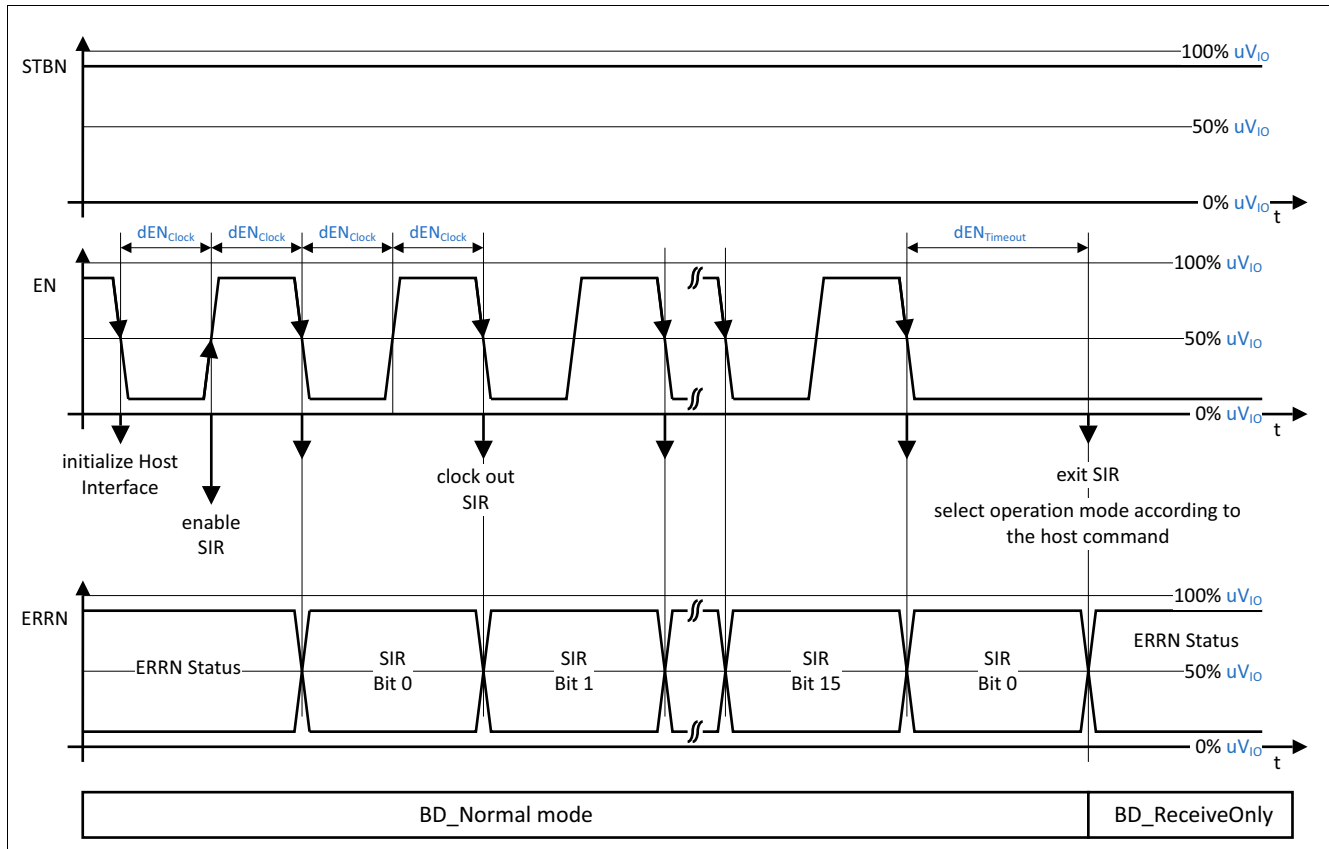
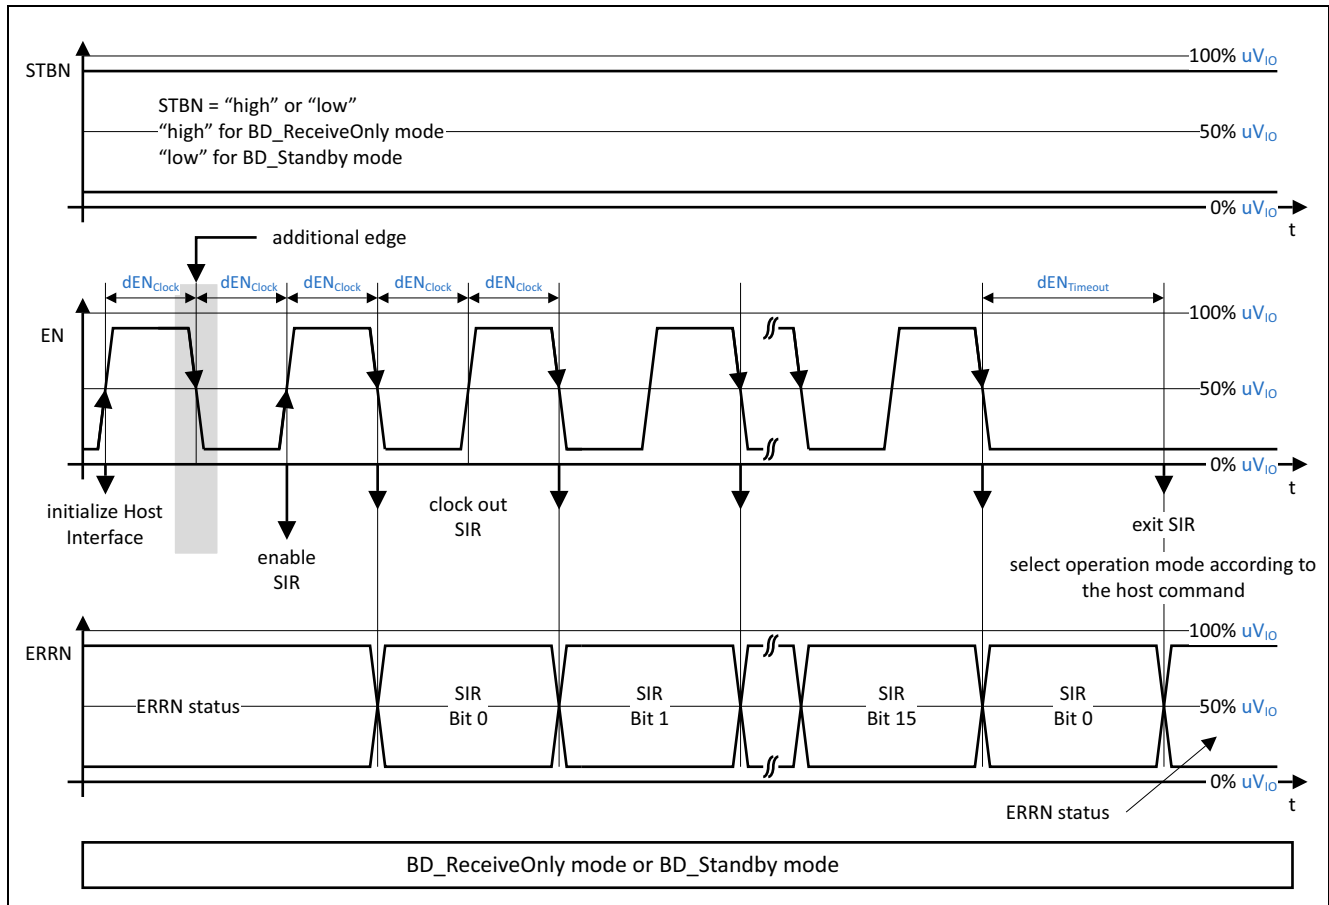

Figure 11 Timing diagram for the SIR readout in BD_Normal mode
Figure 12 SIR readout in BD_ReceiveOnly or BD_Standby mode
During the SIR readout, the EN input acts as the clock and the ERRN output pin acts as the serial “data_out”. Irrespective of the digital signal at the STBN input, the SIR readout is always initialized by a signal change at the EN input pin. When the host command BD_Normal is applied to the Host Interface, the SIR read-out starts with the falling edge at the EN input (see Figure 11). For the host commands BD_Standby and BD_ReceiveOnly the read-out starts with the rising edge at the EN pin (see Figure 12).
1) While the TLE9221SX is in BD_Normal mode, the rising edge is the first signal change after initialization and enables the SIR readout. For the BD_ReceiveOnly and the BD_Standby mode, there is an additional falling edge between initialization and the SIR being enabled (compare with Figure 11 and Figure 12).